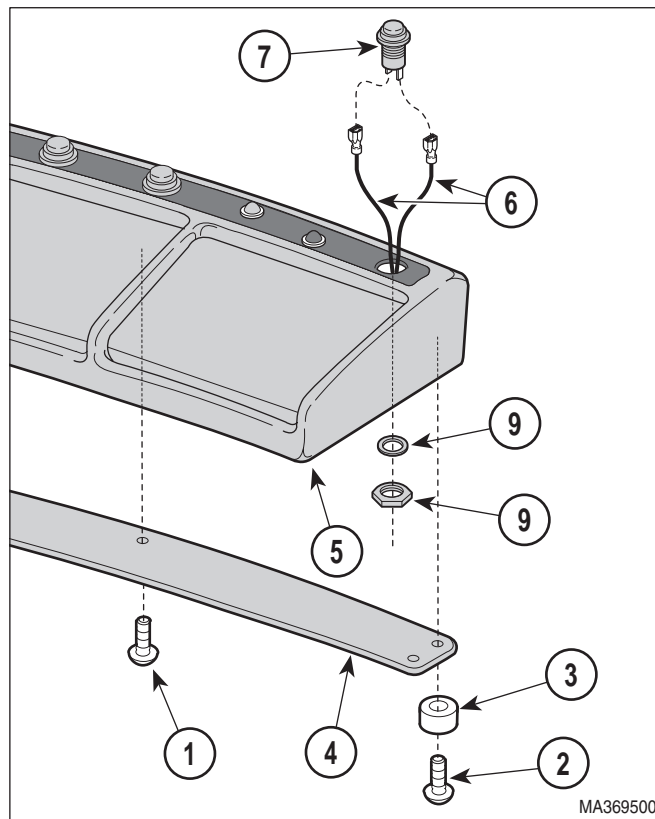

Figure 4-41. Typical Foot Control *Function Button* Switch Removal / Installation
- (1) Unplug foot control cord from table.
- (2) Remove three screws (1, Figure 4-41), four screws (2), glides (3), and wire channel cover (4) from foot control casting (5).
- (3) Disconnect two wires (6) from terminals of foot switch (7).